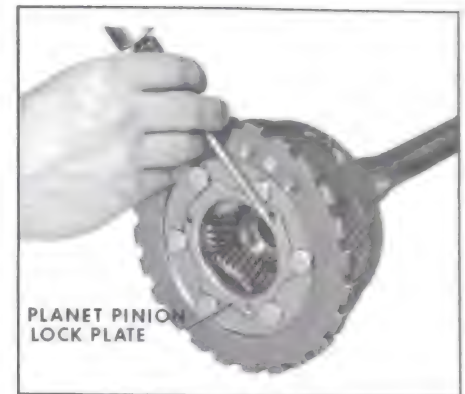

Figure 5-256
2. Rotate planet pinion lock plate and remove. See Figure 5-256.